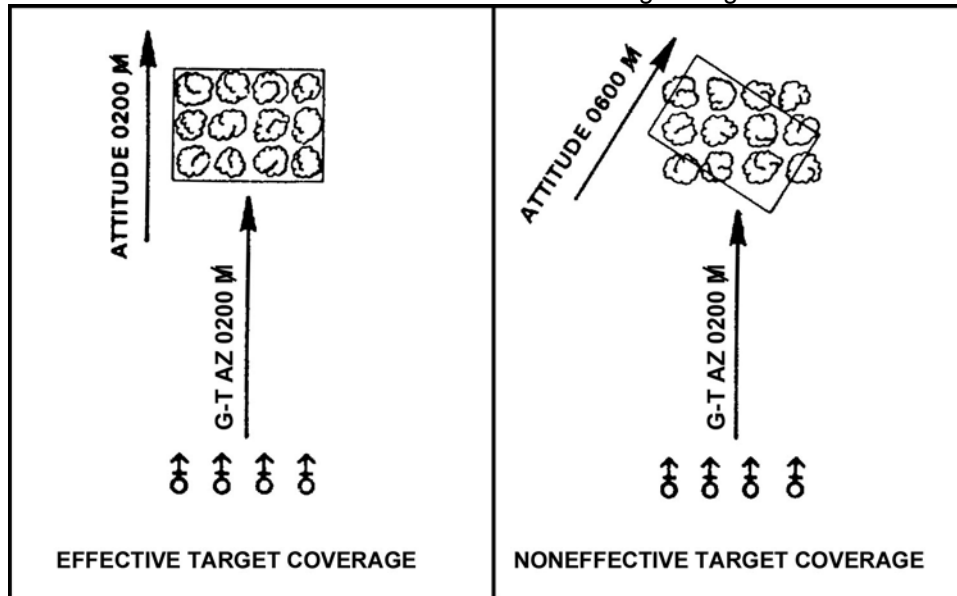

Figure 2. Searching fire.
- c. To effectively engage a target using searching fire (Figure 2), the attitude of the target cannot be more than 100 mils different than the azimuth of the gun-target line.